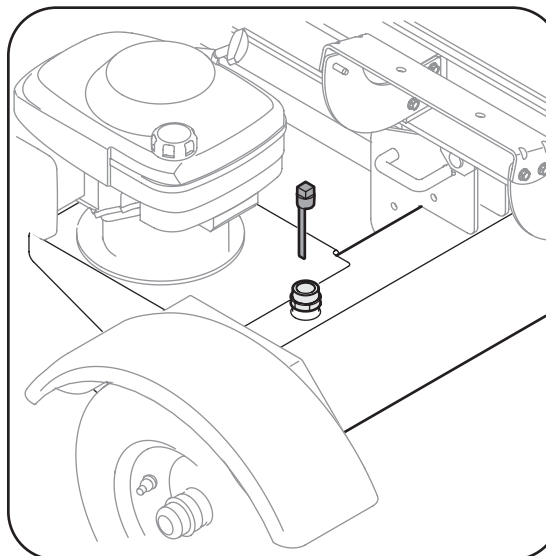

Figure 3-7
2. Remove vented reservoir dipstick, which is located in front of the engine on top of the reservoir tank. See Figure 3-7.
4. Check fluid level using the dipstick. See Figure 3-7. Do not overfill.